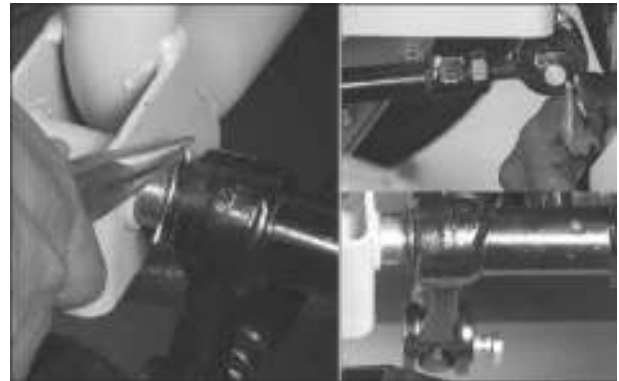

Fig. 3.9
- Take out the spring clip rear, hand starter from support shaft hand starter engine end. (Fig. 3.9)
- Unfold the split pin and pull out the split pin from the pin hand starter and take out the pin hand starter. Separate the eye bolt from shaft complete rear hand starter. (Fig. 3.9)